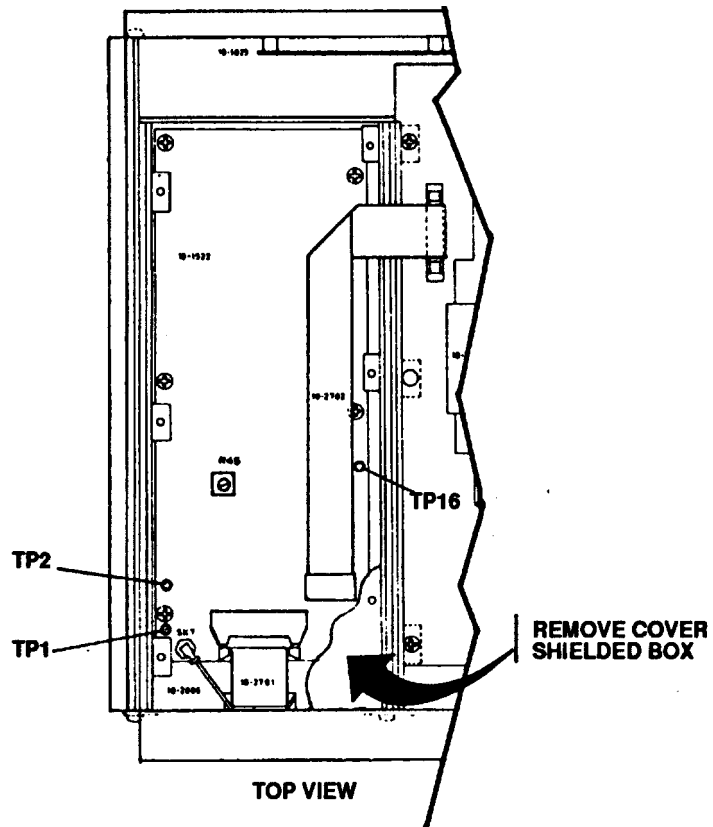
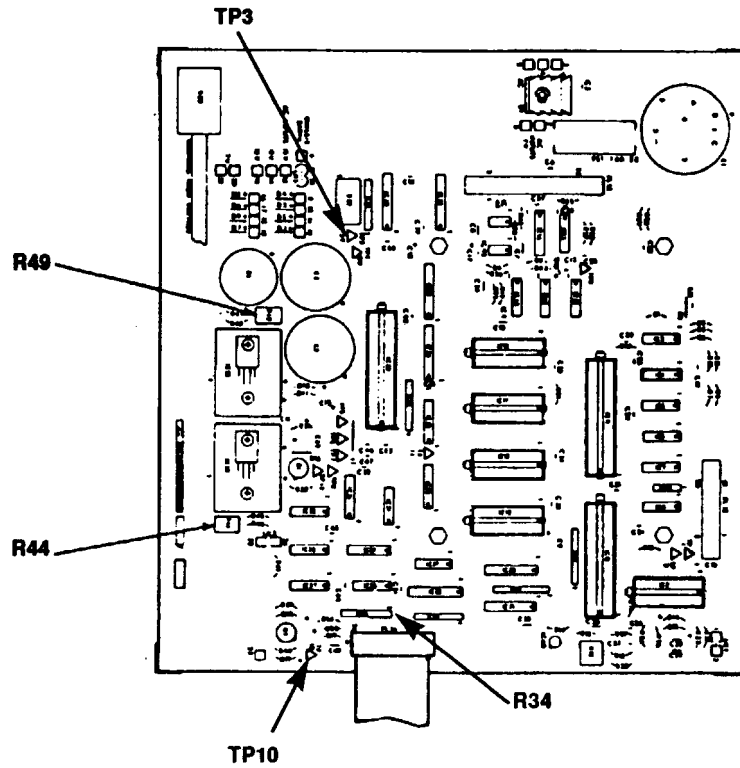

Figure 1. Top view of module assembly.
Figure 3. View of underside of module assembly.
²Figure 1.
a Connect digital multimeter positive lead to TP16 and negative lead to TP1 (fig. 1). If digital multimeter does not indicate +15.0 (±0.5) V, adjust R44 (fig. 3) for a +15.0 V indication (R).
b. Move positive lead to TP2 (fig. 1). If digital multimeter does not indicate -15.0 (±0.5) V, adjust R49 (fig. 3) for a -15.0 V indication (R).
c. Move positive lead to TP3 (fig. 3). Digital multimeter will indicate + 5.0 (±0.25) V.
- d. Move positive lead to pin 1 of R34 (fig. 3). Digital multimeter will indicate +9.3 (± 1.0) V.
- e. Move positive lead to TP10 (fig. 3). Digital multimeter will indicate +4.9 (± 0.4) V.